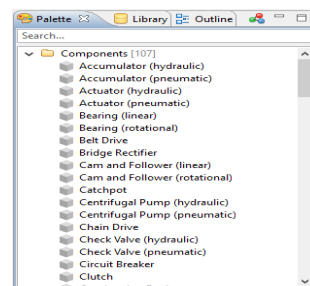

Figure B5: MADE Palette and Library Pane
- 3) Add *Components* or *Parts* to each FBD, using either the predefined components from the *Palette* or the MADE/user’s *Library* (Figure B5), to populate the block diagrams with a drag-and-drop action, which will also autonomously populate the *Project Explorer* accordingly, or use a custom component/part (created via the Optional Step shown below) from the *Project Explorer*.